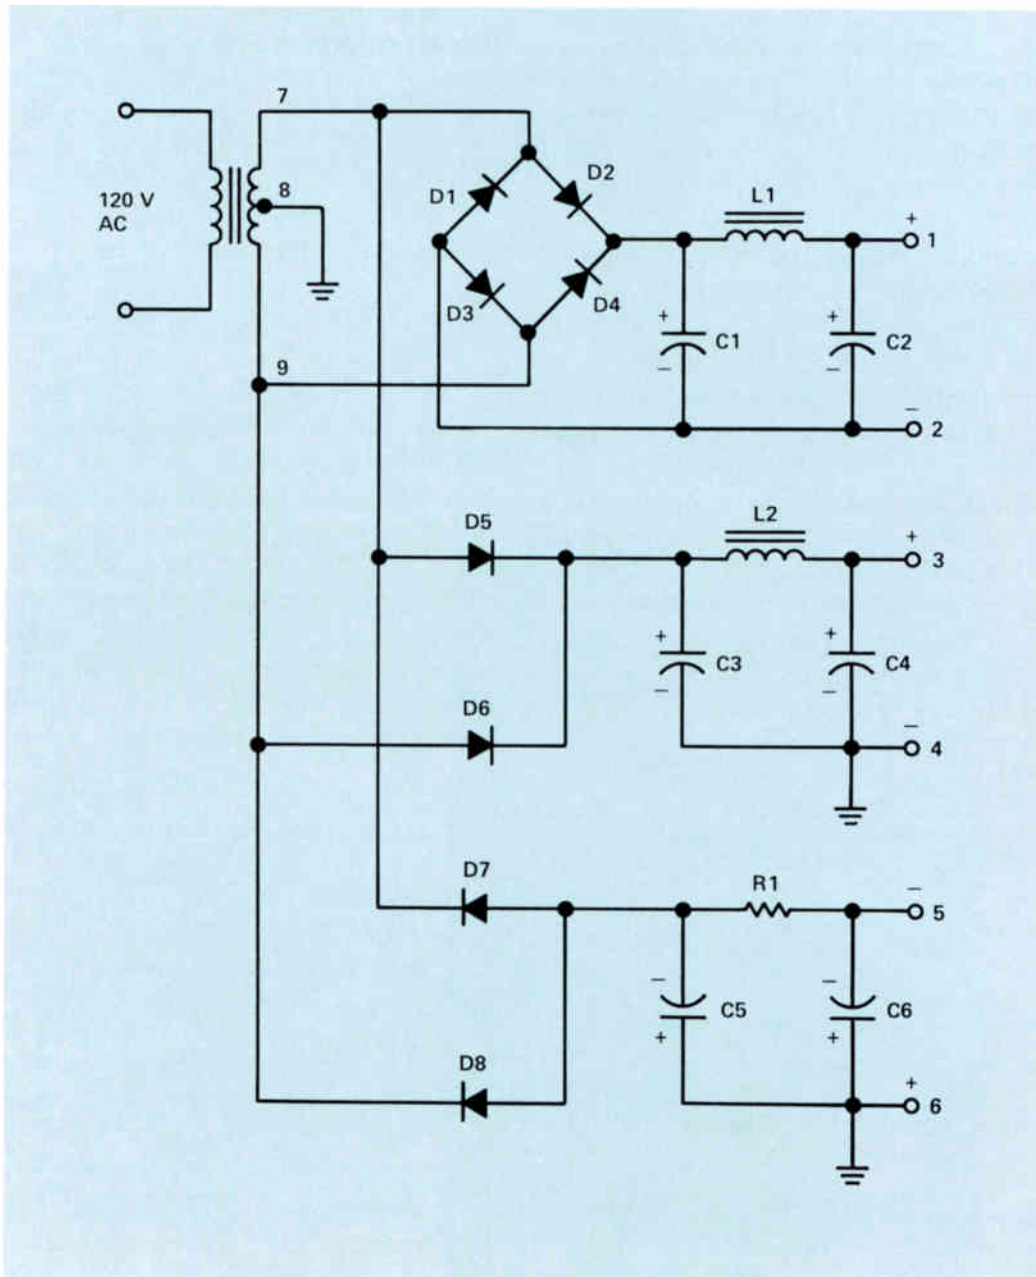

Figure 22. A multiple output voltage power supply.
- 21 Between which two output terminals of the power supply shown in Fig.22 is the highest output voltage available?
- 22 In the bridge rectifier circuit in Fig.22, when terminal 7 of the transformer is negative and terminal 9 is positive, which two diodes will conduct?
A power supply designed to produce multiple output voltages is shown in Fig.22. At first this might look like a complicated supply, but actually it is made up of three simple